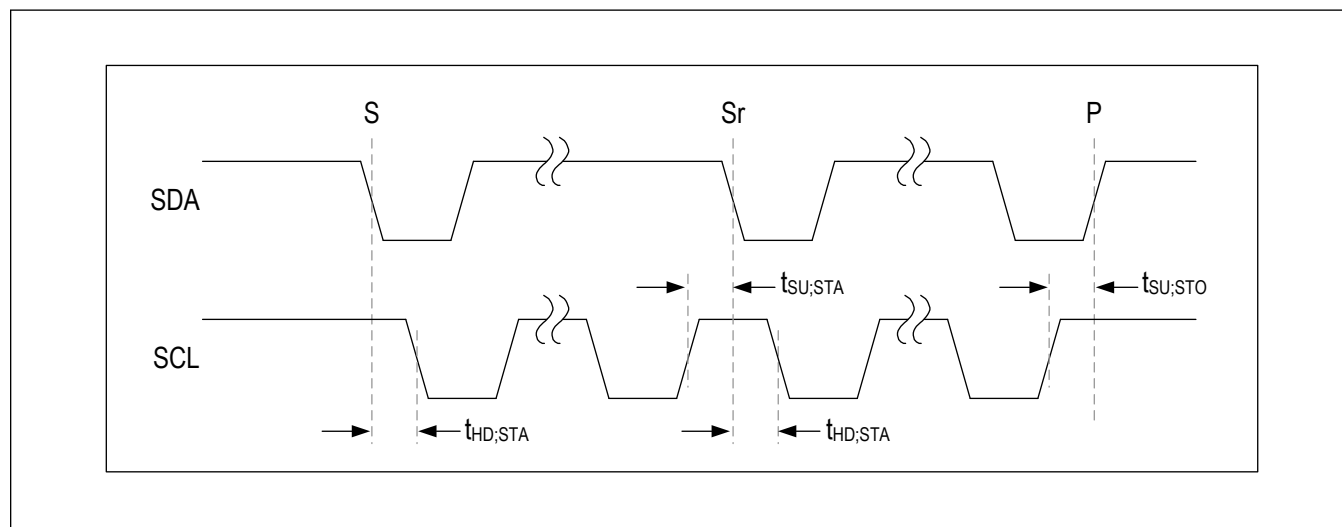

Figure 6. START, STOP, and REPEATED START Conditions
A master device initiates communication by issuing a START condition. A START condition is a high-to-low transition on SDA with SCL high. A STOP condition is a low-to-high transition on SDA while SCL is high (Figure 6). A START (S) condition from the master signals the beginning of a transmission to the MAX20430. The master terminates transmission and frees the bus by issuing a STOP (P) condition. The bus remains active if a REPEATED START (Sr) condition is